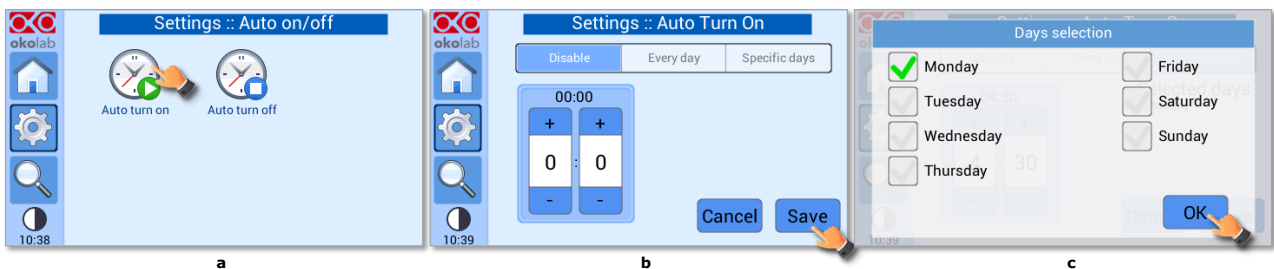

Figure 74. Auto Turn on menu (a – b -c).
Press on *Auto turn on* icon to enter in *Auto Turn on* menu (see Figure 74 a). Set the switching on time, the first number is for setting hour (from 0 to 23), the second number is for minutes. If you select:
- *Specific days*: H401-T-CONTROLLER will turn on automatically at set time on selected days- Flag the desired days and press *OK* (see Figure 74 c).